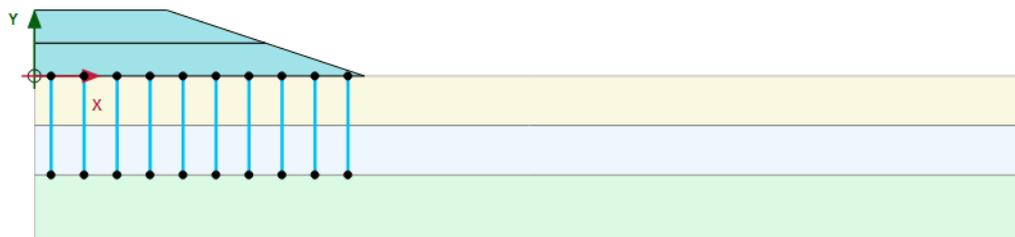

Figure 110: Final geometry of the model
2. Drains are defined in the soft layers (clay and peat; $y = 0$ m to $y = -6$ m). The distance between two consecutive drains is 2 m. Considering the symmetry, the first drain is located at 1 m distance from the model boundary. 10 drains will be created in total. The **head** is defined at 0.0 m. The geometry is shown in Figure 110 (on page 132).